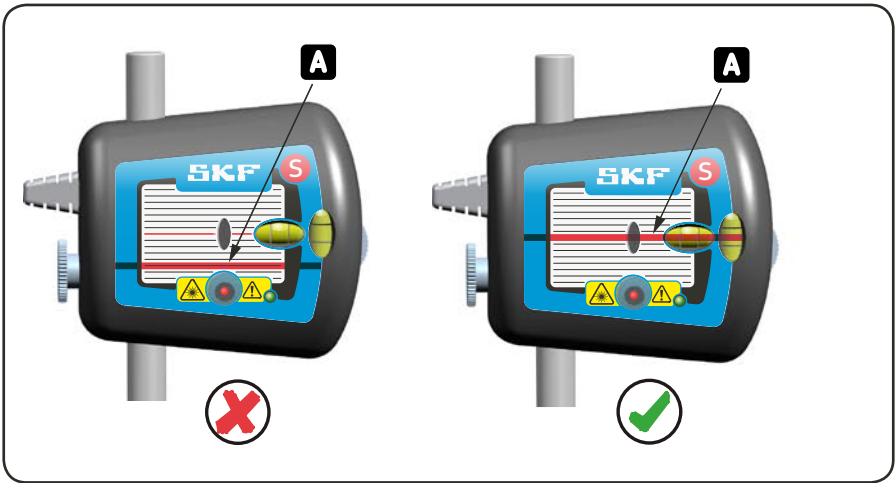

Fig. 9. Hit the target
- b) Aim the laser lines so that they hit in the centre of the target of the opposite measuring unit (fig. 9).